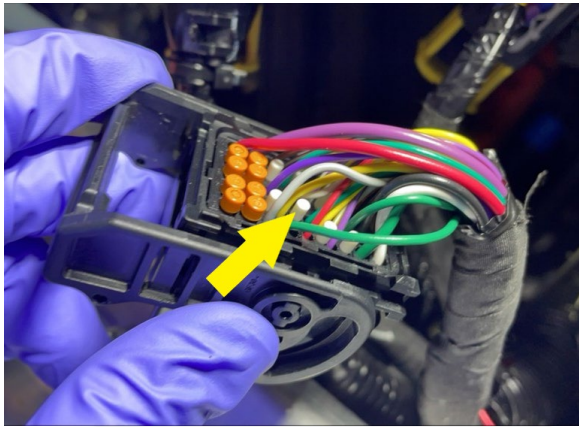
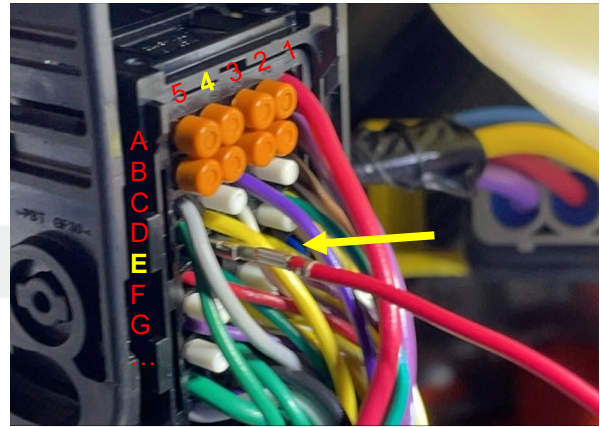

Figure 17
Figure 18
- **Model S Palladium:** Remove the plug from receptacle E4 (Figure 17) and insert the terminal into receptacle E4 (Figure 18)